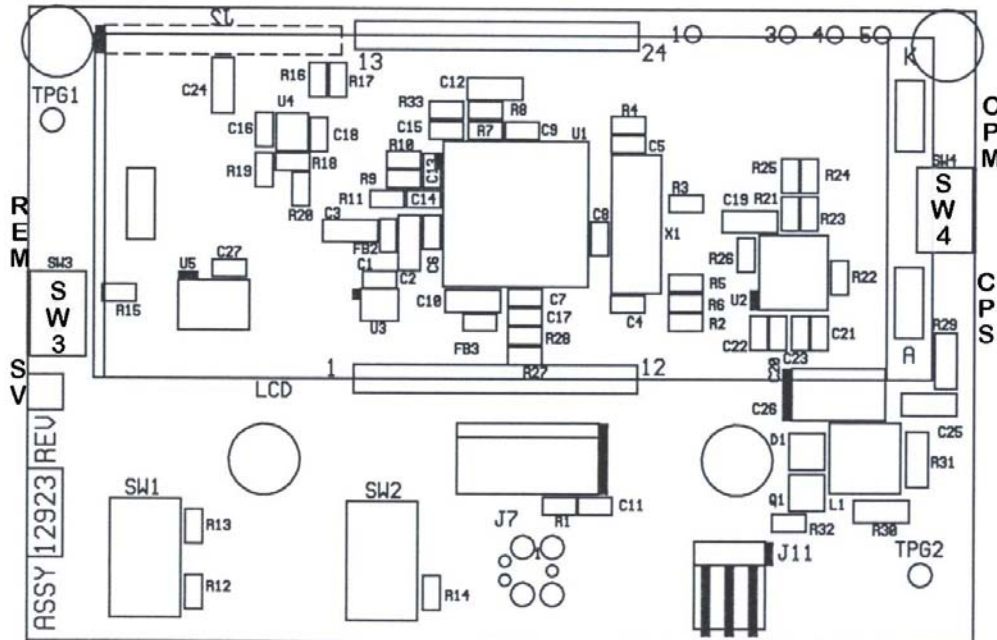

FIGURE 4
The DSM-501 HIGH VOLTAGE and GAIN are adjusted to the operating characteristics of the internal probes supplied with the meter. 6.2 or High Voltage adjustment procedure and SECTION 6.3, 6.4 for the calibration of the system. Be sure the R/Sv and the CPM/CPS switch has be set to the proper units before calibrating the system. Figure 4 shows the location of the switch on the LCD pc board.
5.2.2 Select the mode of operation CPM or DOSE (BASED ON CS 137 CALIBRATION) with the CPM/DOSE MODE SWITCH. CPM includes DEAD TIME correction. DOSE includes linearization and DEAD TIME for the probe. DOSE CALIBRATION IS REFERENCED TO Cs137. The LCD READOUT can display the probe signals in CPM, COUNTS, ROETGEN AND SEIVERTS. When calibrating the system the decision to operate in CPM or CPS and ROETGEN OR SEIVERTS MUST BE MADE AND THE APPROPRIATE SWITCHES ADJUSTED BEFORE THE SYSTEM IS CALIBRATED. FIGURE 4 SHOWS THE LOCATION OF THE R/Sv SWITCH AND THE CPM/CPS SWITCH.